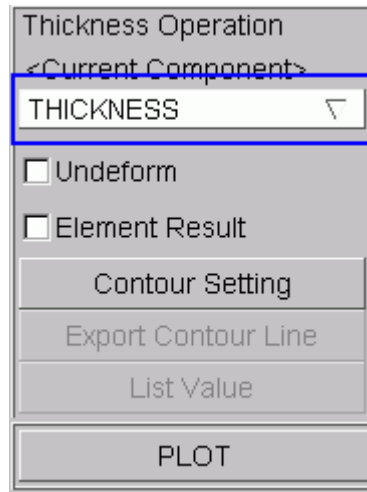

Figure 4.48: Thickness dialog box
- 2) Select THICKNESS (absolute value) or THINNING (relative thinning rate) arbitrarily from the drop down menu of **Current Component**. See figure 4.48.